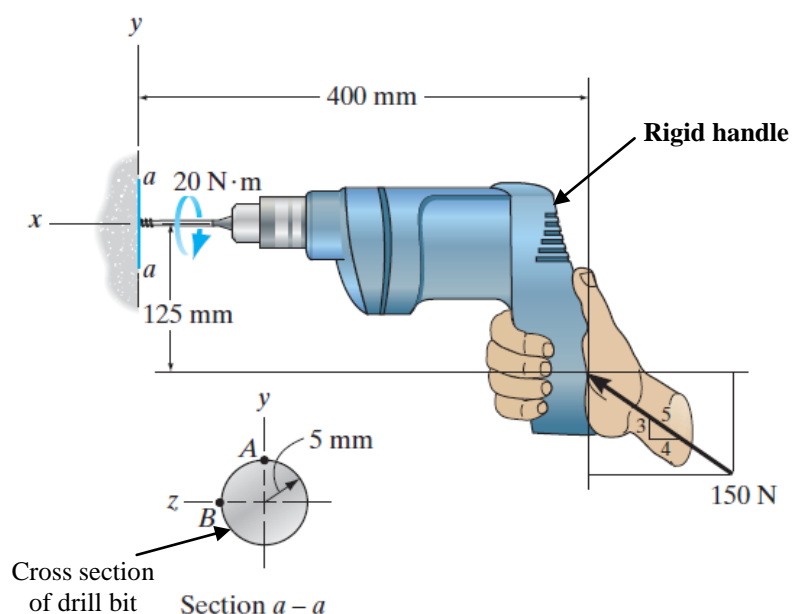

Fig. 3
3. The drill is jammed in the wall i.e., unable to rotate and is subjected to 20 kN-m torque applied by the motor and 150 N force applied by the hand as shown in Fig. 3. Determine the state of stress at point A and B on the cross section of the drill bit at section $a-a$.